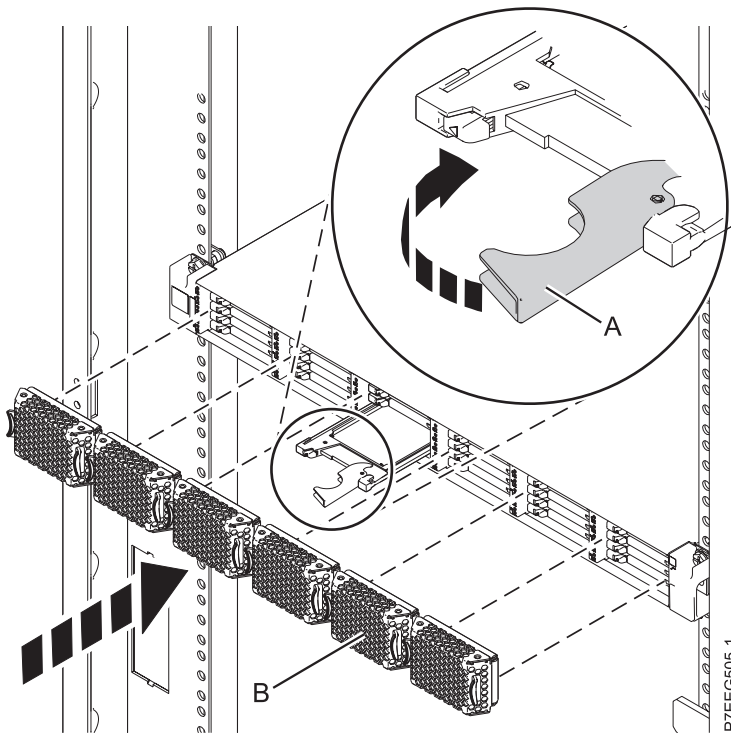

Figure 14. Installing a solid-state drive in the EDR1 PCIe storage enclosure
1. With the handle in the unlocked position, align the solid-state drive with the guide rails in the enclosure. See Figure 14 on page 22.